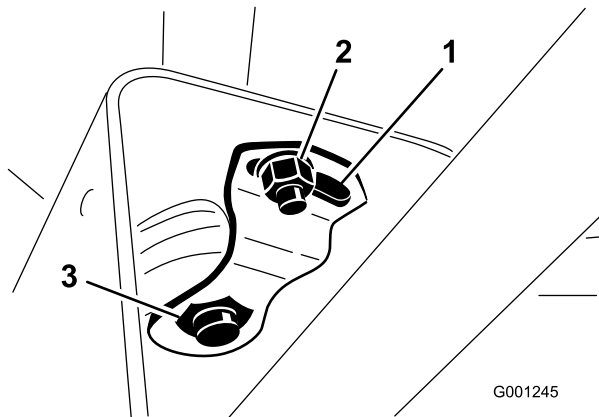

Figure 33
2. Slide the cover up the steering shaft to expose the pivot bracket (Figure 33).
3. Loosen the small nut and rotate the pivot bracket until it tightens the large nut below it (Figure 33).